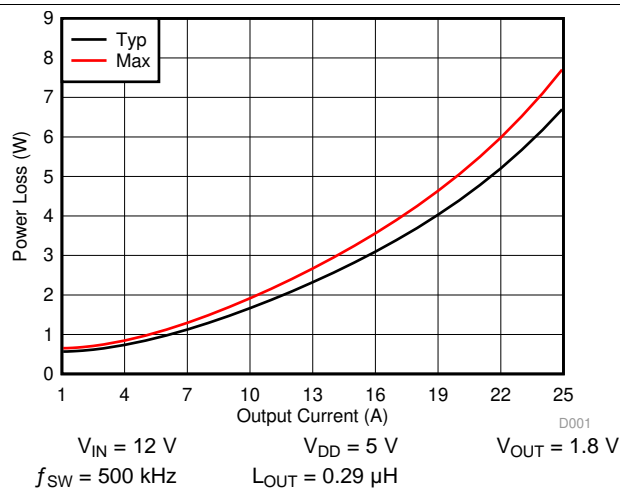
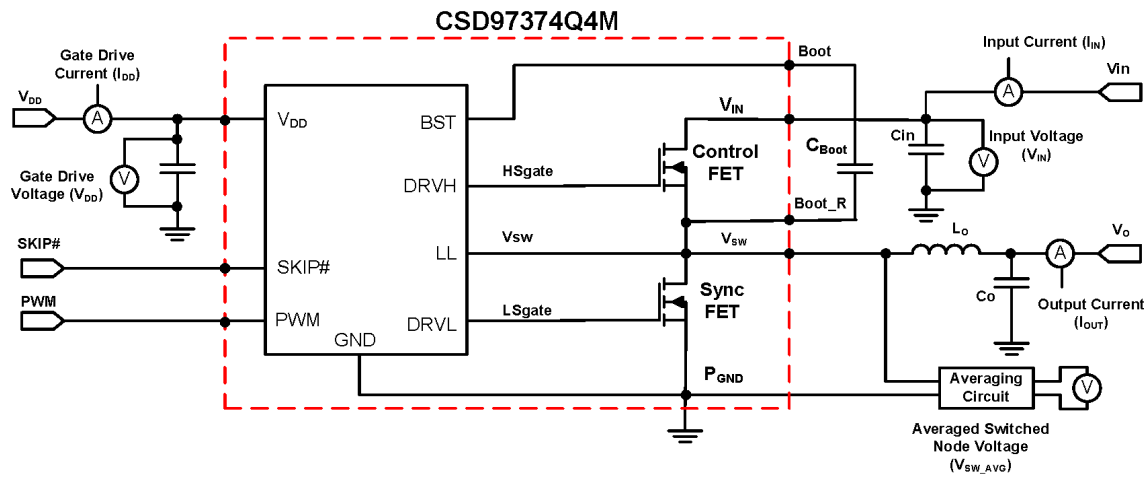

Figure 1. Power Loss vs Output Current
Figure 14. Power Loss Test Circuit
MOSFET centric parameters such as  $R_{DS(ON)}$  and  $Q_{gd}$  are primarily needed by engineers to estimate the loss generated by the devices. In an effort to simplify the design process for engineers, Texas Instruments has provided measured power loss performance curves. Figure 1 plots the power loss of the CSD97374Q4M as a function of load current. This curve is measured by configuring and running the CSD97374Q4M as it would be in the final application (see Figure 14). The measured power loss is the CSD97374Q4M device power loss which consists of both input conversion loss and gate drive loss. Equation 1 is used to generate the power loss curve.
The power loss curve in Figure 1 is measured at the maximum recommended junction temperature of  $T_J = 125^\circ\text{C}$  under isothermal test conditions.
- Typical power loss at 15 A = 2.8 W (Figure 1)